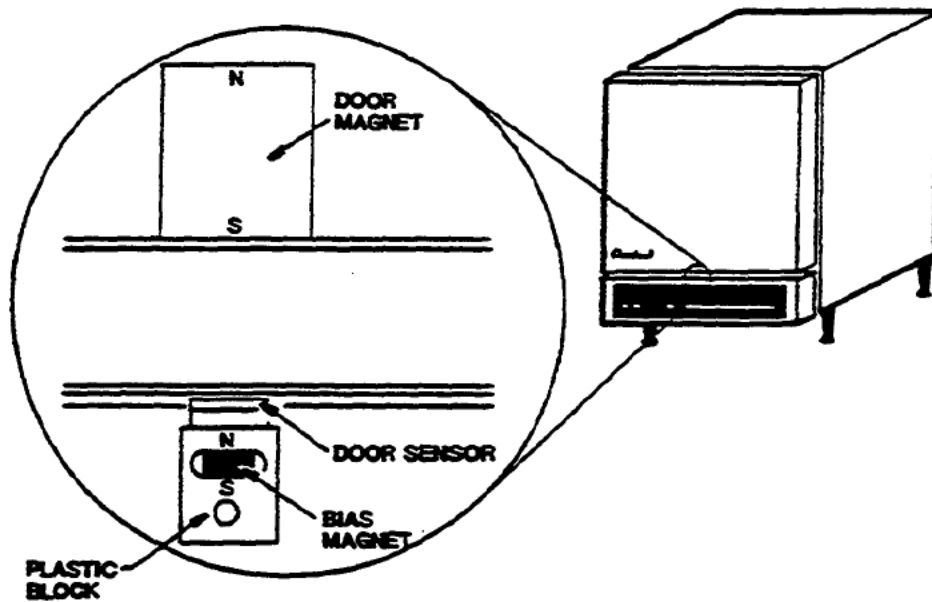

Figure 5-5. Door Sensor Location
The door sensor switch is mounted on the Control Board Assembly as illustrated in Figure 5-5. It is a proximity switch activated by a magnet mounted inside the compartment door. The control circuitry prevents operation of heater elements and the condenser solenoid valve while this switch is open (door open).
1. Remove front control panel assembly and install a magnet over the door sensor location as shown in Figure 5-5.